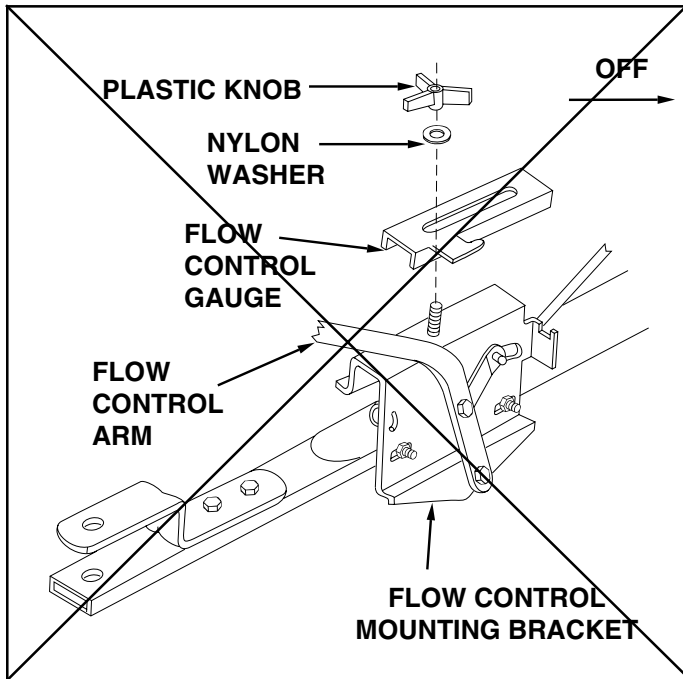

FIGURE 14
20. Assemble the flow control gauge onto the flow control mounting bracket as shown in figure 14. Secure with nylon washer and hand knob.
21. Move flow control arm to off position and slide flow control mounting bracket toward hopper until closure plate (located in bottom of hopper) is completely closed. Tighten 1/4" hex lock nuts assembled in step 19. See figure 14.